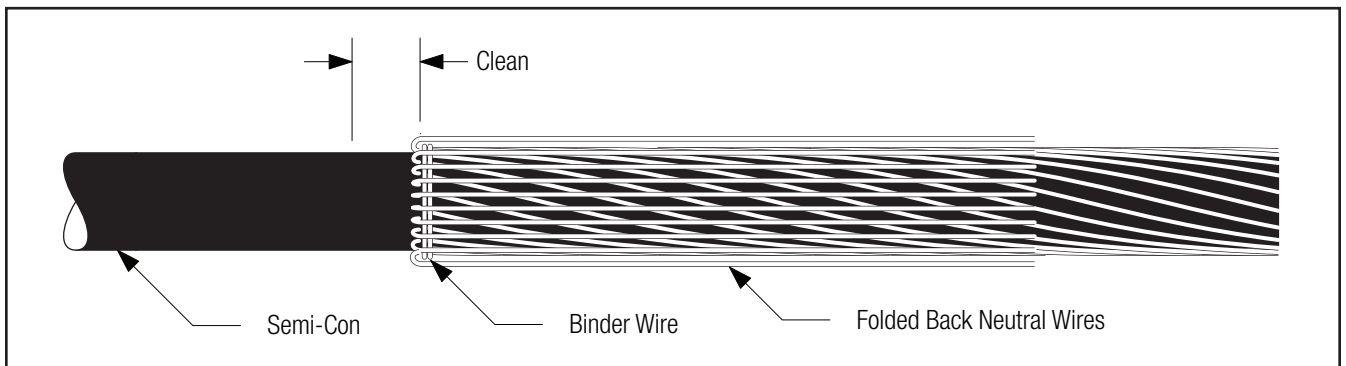

Figure 6
2.3.2 Clean cable semi-con as shown (*Figure 6*).